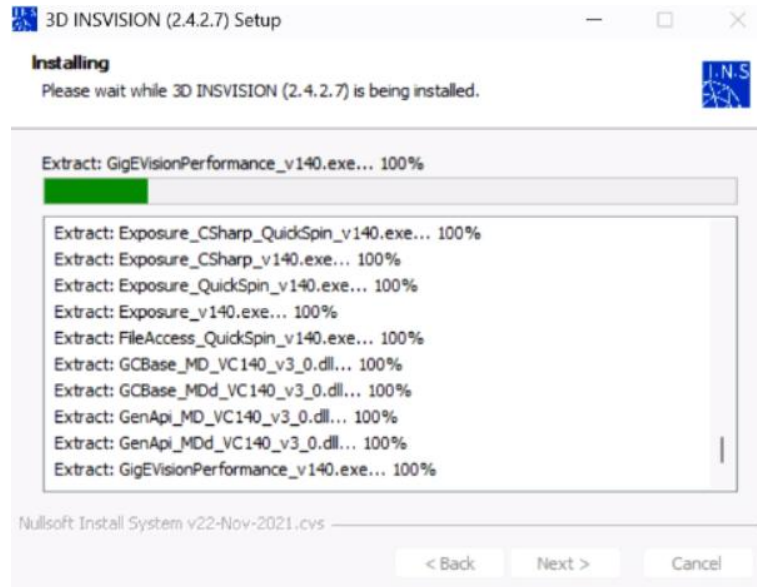

Figure 11
(5) The installation loading interface will pop up. Please wait patiently, as shown in Figure 11.